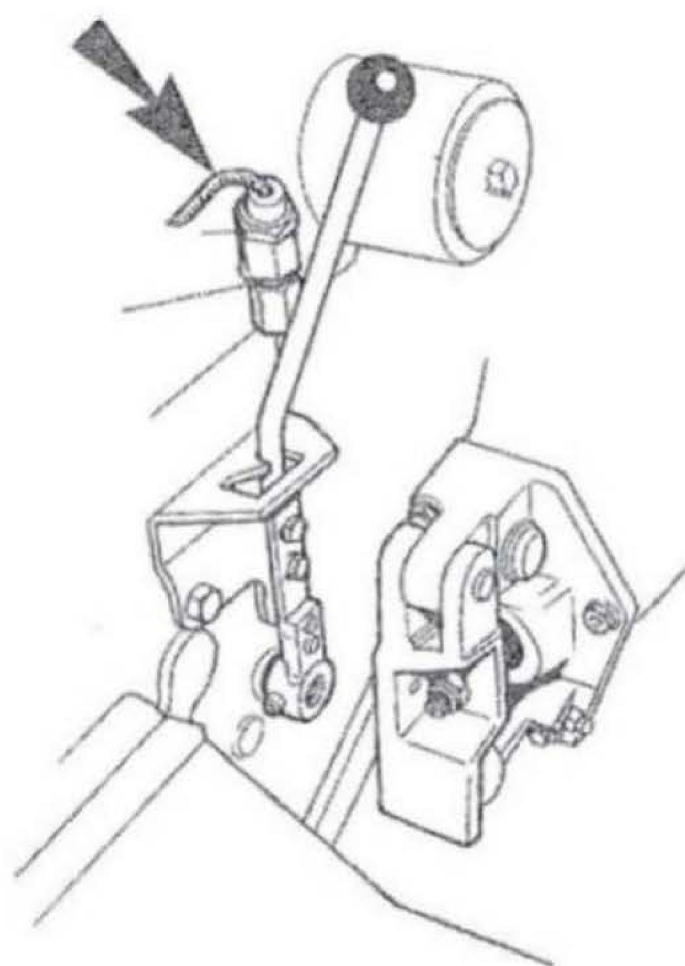

fig 52
Clean Air Filter (fig 52)
1. Disconnect blue wire in the clip mounted on the left hand side of lift cover, (figure 52).